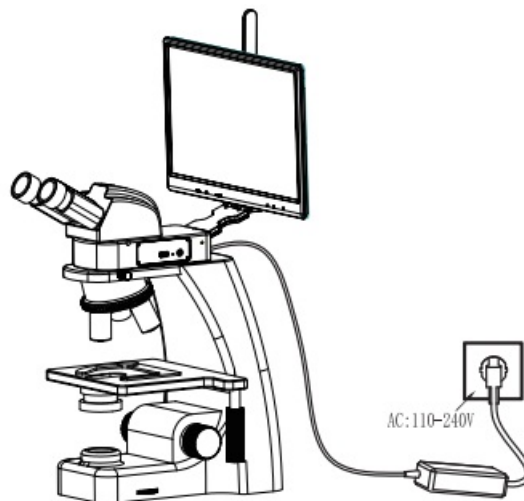

Figure 4
4. The adapter interface is inserted into the power hole of the display screen, and then the adapter is connected to 110-240V AC power, as shown in Figure 4: